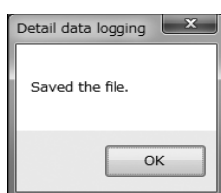

Fig.26
- ⑧ If you click the button with the square on the tool bar or "Chart and Recording" - "Recording" - "Stop" from menu, logging stops (terminating the writing process on a file) and the file is completed. Click "OK" on the following message box (Fig. 26).